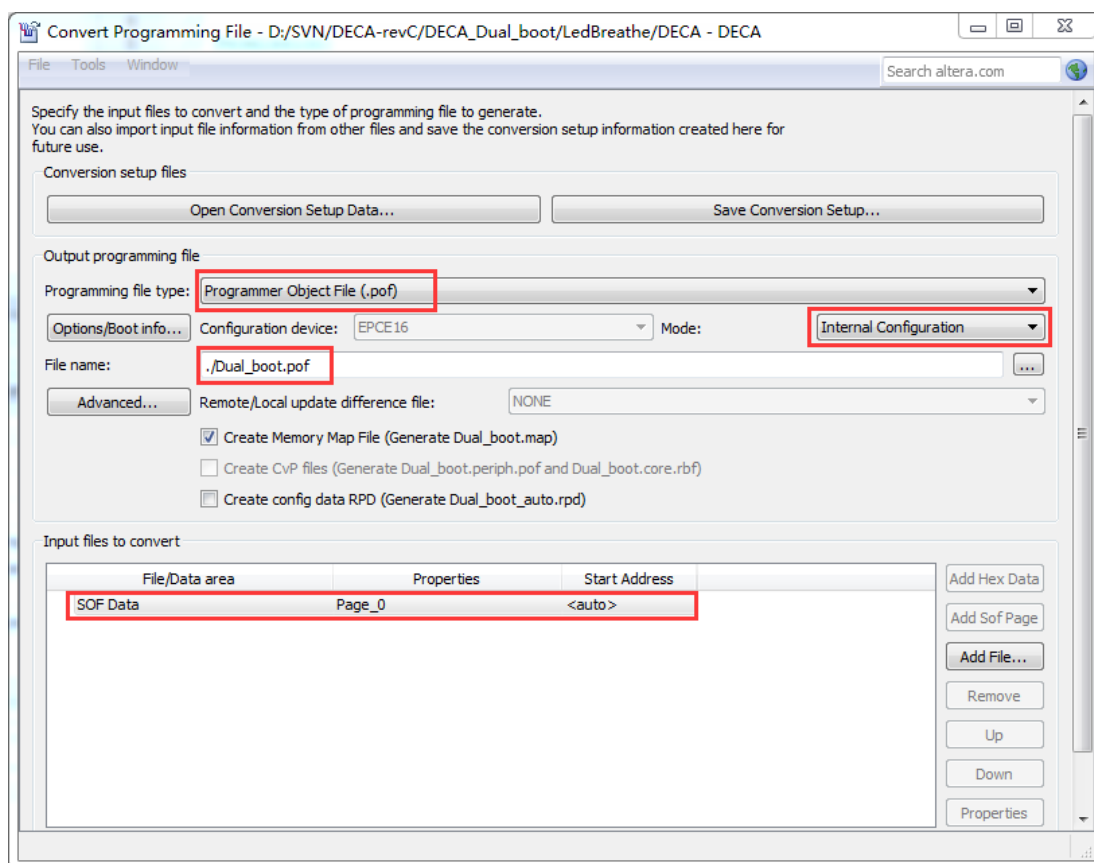

Figure 8-14 Dialog of “Convert Programming Files”
5. Click on the **SOF data** in the section of **Input files to convert**, as shown in **Figure 8-14**.